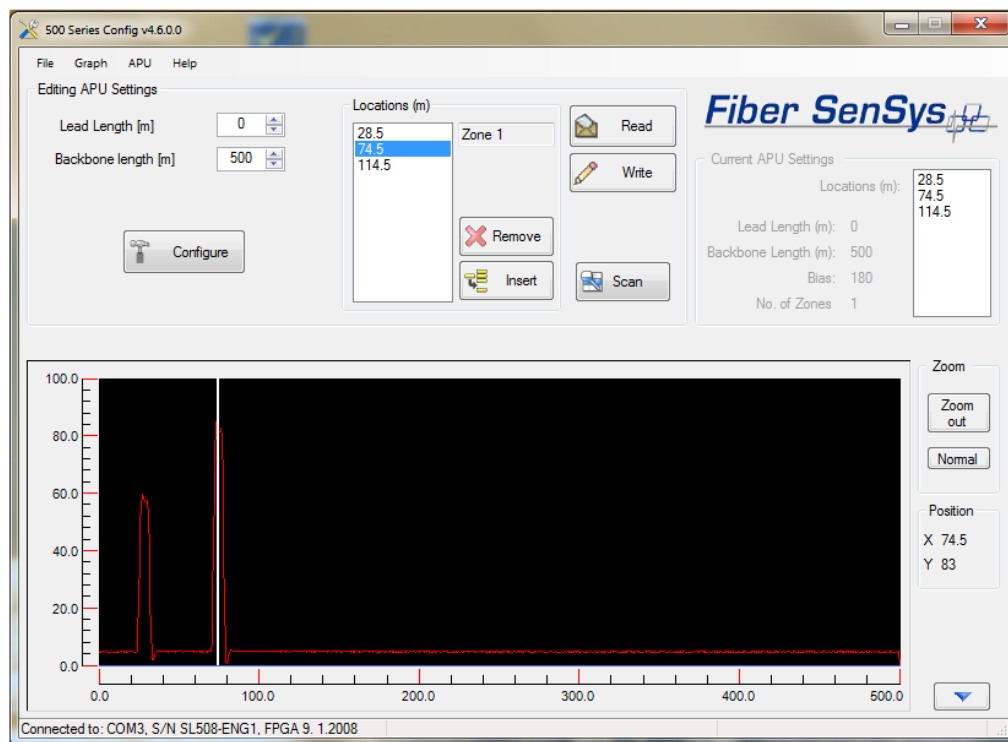

Figure 4-3. Example of Config, after scanning a fiber.
- ❖ See the example in figure 4-3.